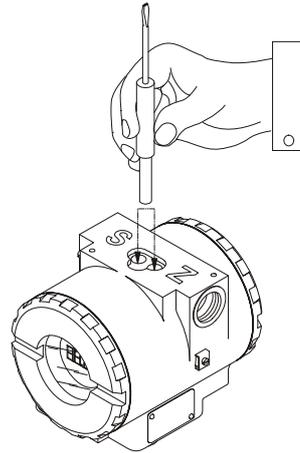

Figure 5.1 – Local Adjustment Switches
To configure **RD400** locally, two holes are located underneath identification plate of the housing. Loosen the identification nameplate screw and slide the nameplate to uncover the holes. They are marked with “Z” and “S” which for the remainder of this manual will be identified as (Z) and (S) respectively. Figure 5.1 shows how to correctly insert the magnetic tool into the local adjust switches and the corresponding action performed by the magnetic tool when inserted into (Z) and (S).